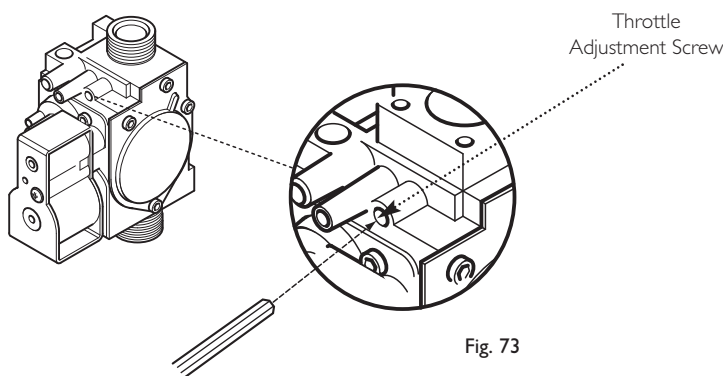

Fig. 73
**NOTE:** To assist the boiler to light prior to final setting, use a suitable hexagon key to wind out the Throttle Adjustment Screw until it is flush with the valve body, then turn the screw 4 full turns clockwise (Fig. 73). If the boiler will not light, or the correct CO2 cannot be achieved contact Baxi Customer Support 0344 871 1525.